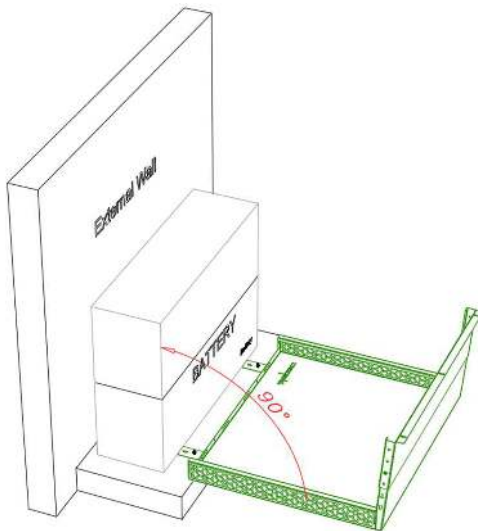

Fig. 5 - Rotate the assembly upward 90°
- Adjust Lid (C) to suit the required width and ensure the Battery Cover is straight and properly aligned (as shown in Figs. 5 & 6), then secure fixings.